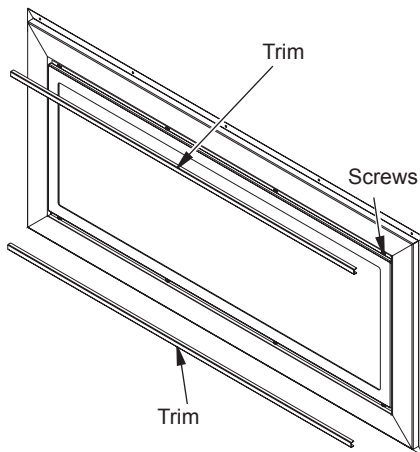

Figure 11 - Removing Exterior Glass Door for Cleaning
- Using a flat head screw driver, pop out the top and bottom trim pieces as shown in Figure 11.